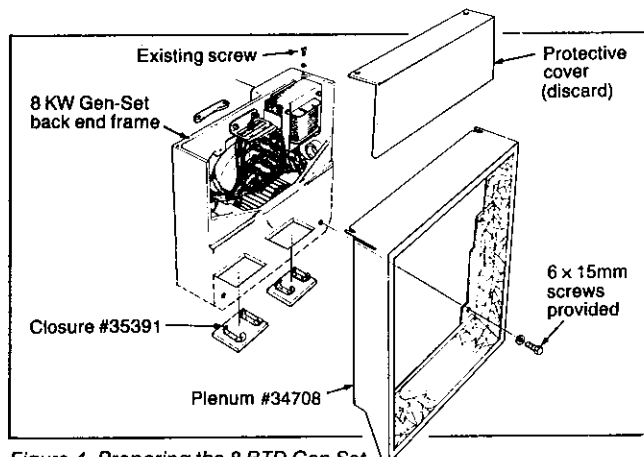

Figure 4. Preparing the 8 BTD Gen Set
3. Install the two #35391 closures in the two rectangular holes cast in the bottom of the generator frame (see Figure 4). Due to irregularity in the casting some clips may require light bending in or out to fit snugly. These closures are necessary to prevent recirculation of hot air within the Sound Guard enclosure. This operation is most easily done in the shop by hoisting the generator set to a comfortable working height for good visibility.